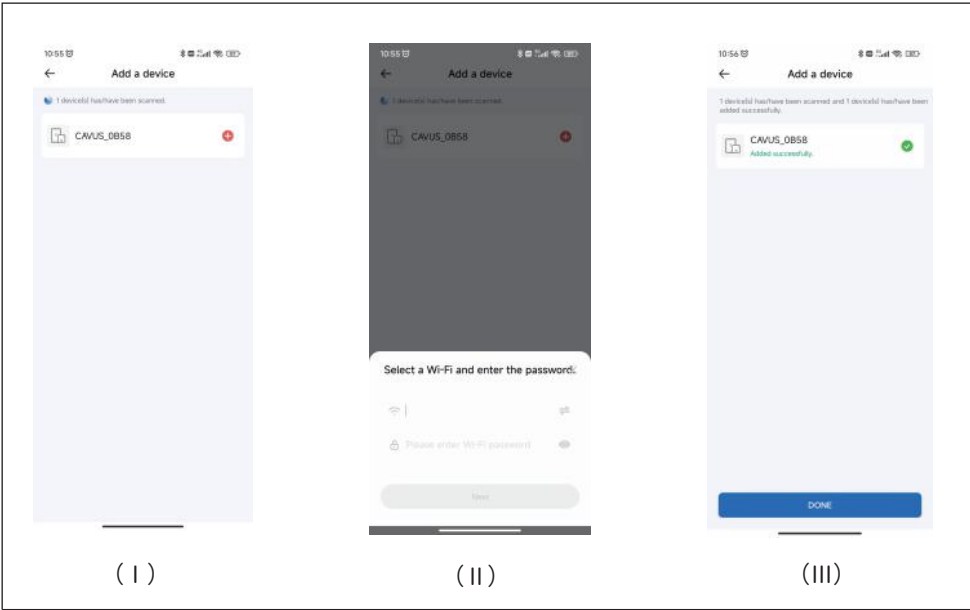

Figure 3.3.5 Add the device
3.3.4 Please choose the device you want to add , type the Wi-Fi name and Wi-Fi password , and then you will see figure 3.3.5 (III) which means the device has been added successfully. Only 2.4GHz wireless network is suitable.